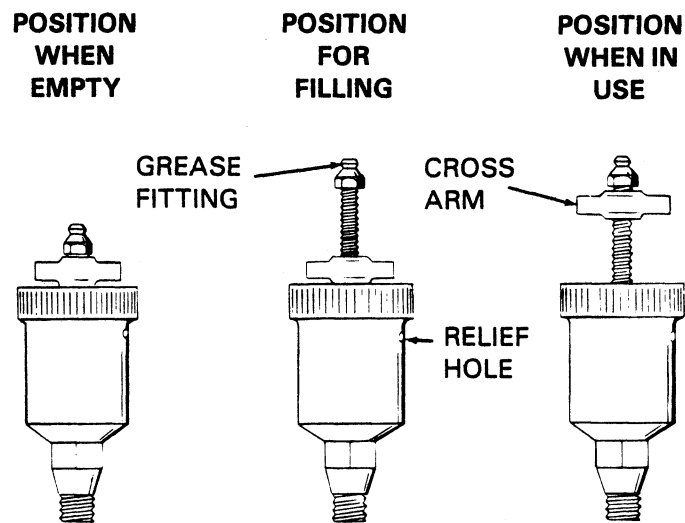

Figure 4. Automatic Lubricating Grease Cup
Before removing the seal assembly, turn the cross arm on the seal grease cup (6) clockwise until it rests against the cover (see figure 4). This will prevent the grease in the cup from escaping after the seal is removed.
Before starting the pump, fill the grease cup through the grease fitting with a good grade of No. 2 pressure gun grease until grease escapes from the relief hole. Turn the grease cup arm counterclockwise until it is at the top of the stem; this will release the spring to apply grease to the seal (see figure 4).